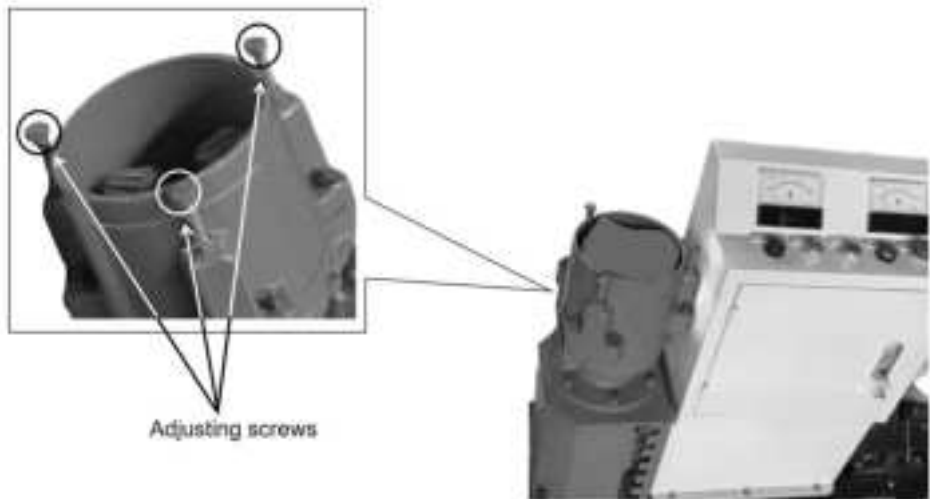

Figure 4
2. Place the pellet machine on a stable ground, check whether the steering meets the requirements, and whether the **adjusting screws** in each part are loose (shown in Figure 4).